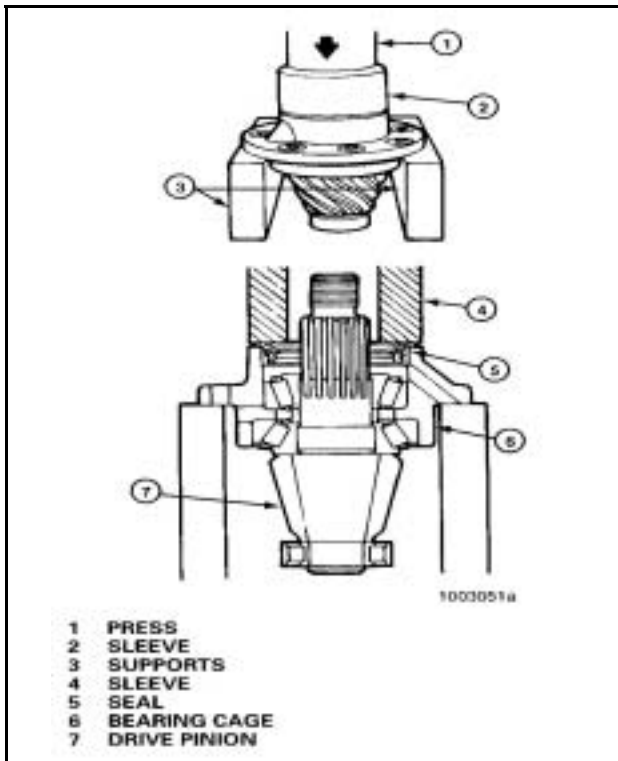

Figure 70
- c. Press the seal into bearing cage until flange is flat against the top of bearing cage. Use a sleeve or seal driver of the correct size that fits against the metal flange of seal. The diameter of the sleeve or driver **must** be larger than the diameter of the flange. **Figure 70.**